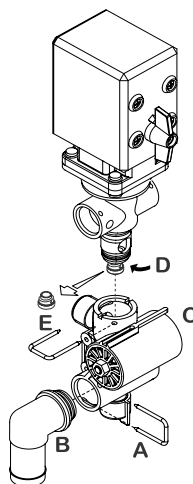

Fig 49
- 1 Cautiously remove the clip (A Fig 49), (**Note: Chemical spill risk!**) and pull out the hose (B). When the housing is drained, there should be no liquid flow through the pressure equalization device. If there is any leakage, valve cone (E) must be changed.
- 2 Remove clip (C). Lift motor housing off valve housing.
- 3 Unscrew screw (D) and replace valve cone (E).